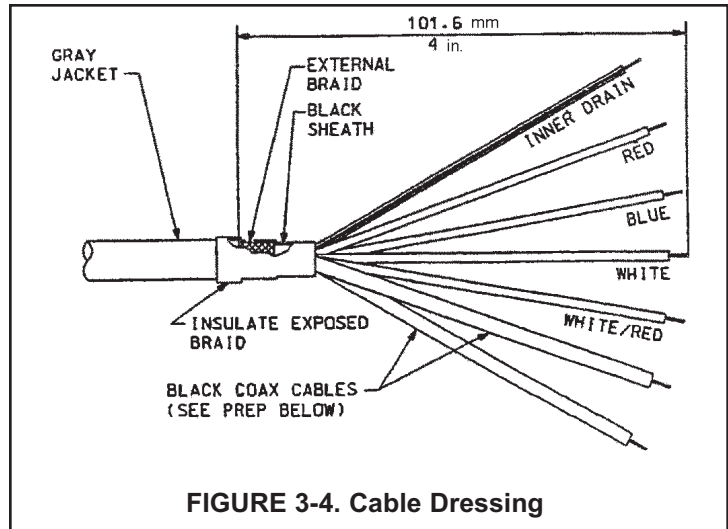

FIGURE 3-4. Cable Dressing
**All interconnecting sensor cable ends must be properly dressed, as shown in Figure 3-4, to prevent the individual sensor and shield wires from shorting. All shields must be kept electrically separate all the way back to the terminals on the Model 54e pH/ORP. Check that there is no continuity between the shield wires and any other sensor conductors or shields prior to connecting the sensor wiring to the terminals on the Model 54e pH/ORP. FAILING TO FOLLOW THESE INSTRUCTIONS WILL RESULT IN CONTROLLER MALFUNCTION.**
1. Use only the cable specified. Figure 3-4 shows the 10 conductor cable with 3 shields (9200273).